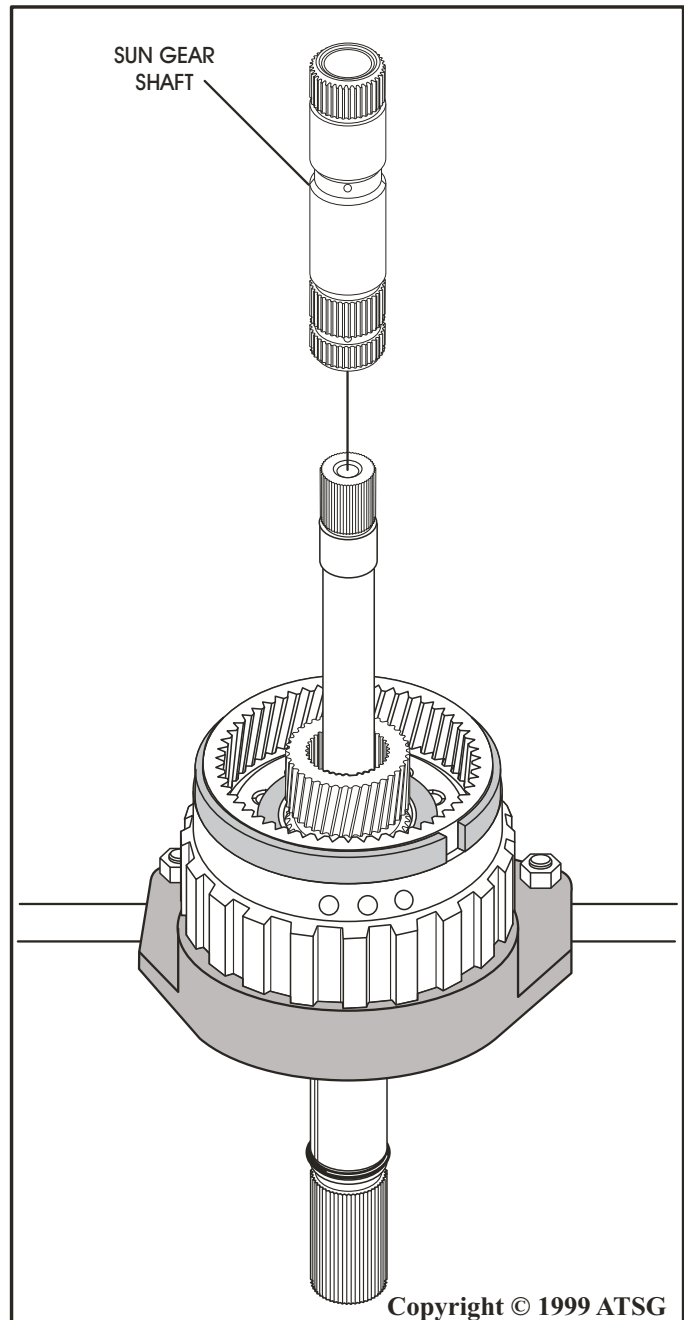

Figure 65
25. Install the sun gear shaft into the splines of the sun gear, as shown in Figures 65 and 66.